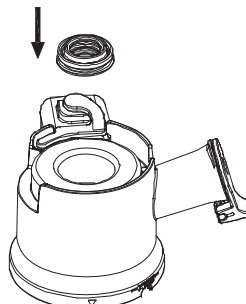

Fig 12b
- b. After Cleaning, please put it back to the center hole. The small ribbed surface should be should face upward (Fig. 12b) Make sure the groove of the seal ring well fit in the squeezing bowl.